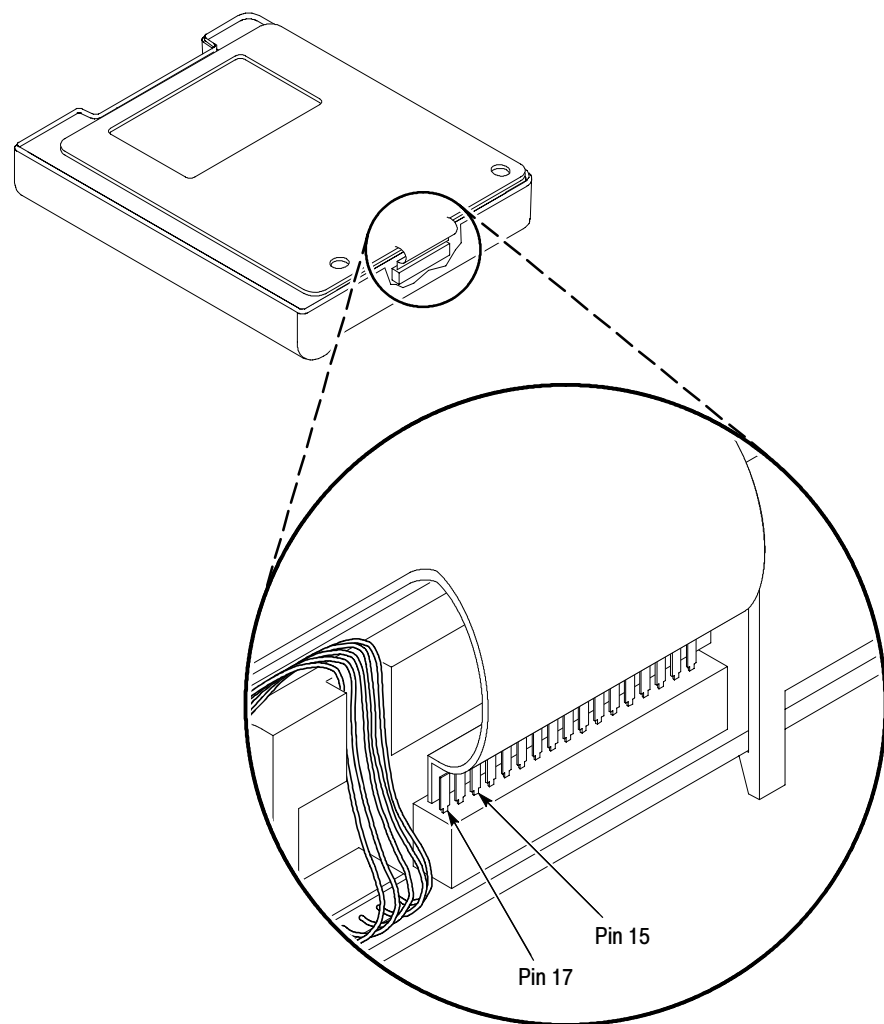

Figure 28: Bypassing the ON/STBY switch
12. Using a bent paper clip, momentarily short pins 15 and 17 of the connector to bypass the ON/STBY switch as shown in Figure 28. Follow the instructions in the table below.